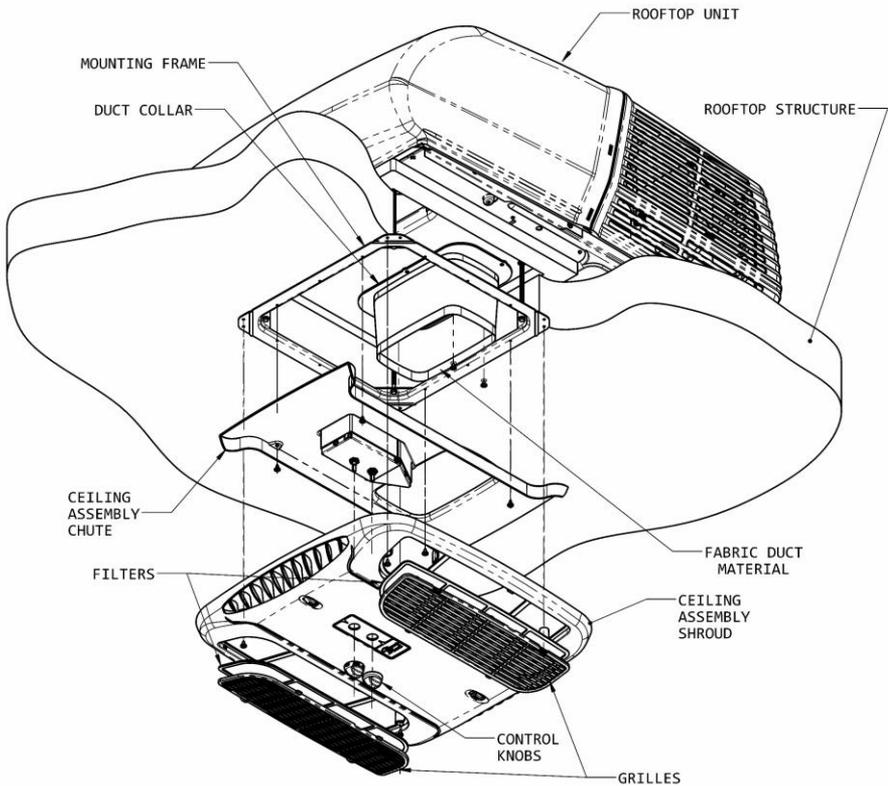

Figure 9
- B. Fasten the duct collar to the heat pump basepan with 3 provided screws (See Figure 9).
- H. Raise the ceiling assembly chute to the unit mounting frame and secure the chute with 4 provided screws (See Figure 9).
- K. Raise the ceiling shroud, ensuring it meshes with the chute, and secure to mounting frame with 4 provided screws (See Figure 9).